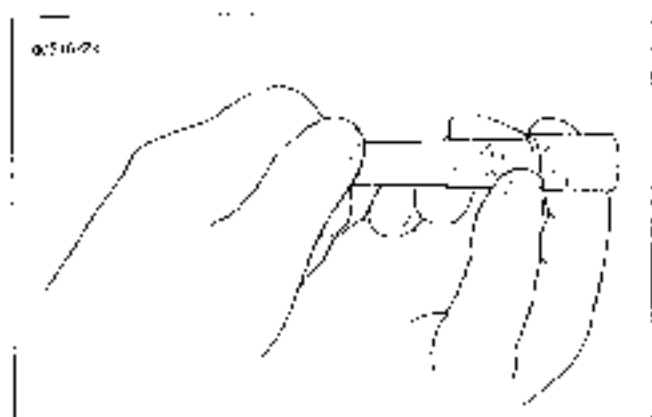

Figure 2-95.
- b. See Figure 2-95. Pushing thumb on external spring and pull back on thumb (counterclockwise) rebound adjuster to "full back" (turn down) (counterclockwise) 1/2 ticks.
- d. See Figure 2-95. Thread locknut on damper rod up to contact base of rebound adjuster and tighten in place.